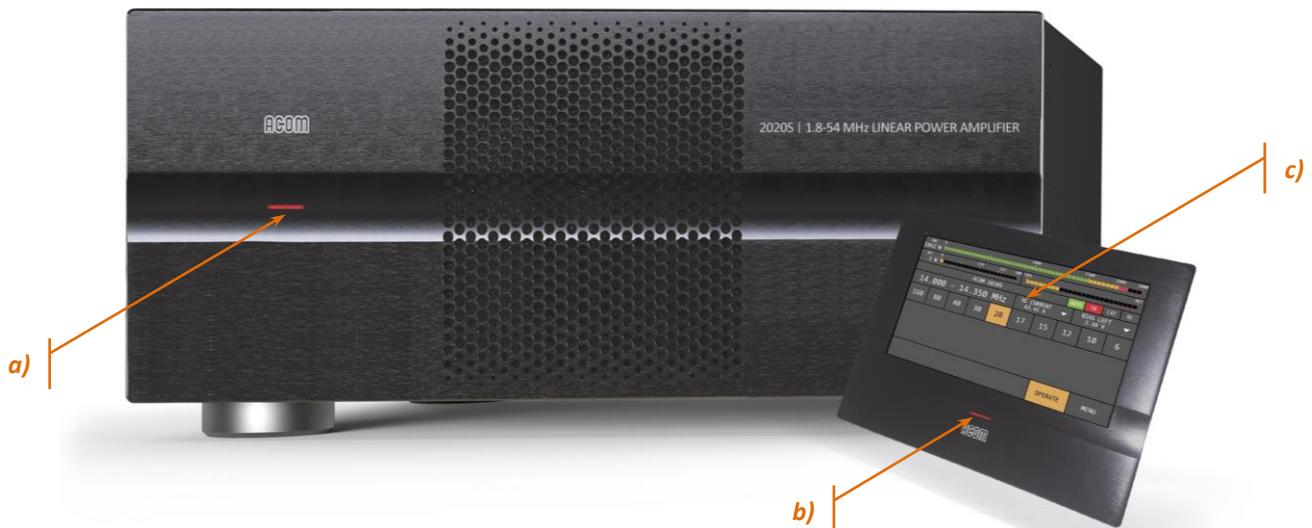

Figure 3-1 Amplifier and RCU Front panels - Controls and Readouts
Now you can turn on the amplifier's mains rocker switch (see *Figure 2-3 Amplifier rear panel - Connections*, Pos. (3)). This will activate only the low-energy STANDBY mode of the amplifier power supply and the red LED on amplifier's front panel will light up (see *Figure 3-1 Amplifier and RCU Front panels - Controls and Readouts*, Pos. (a)), as well as the red LED on RCU's front panel will light up also (see *Figure 3-1 Amplifier and RCU Front panels - Controls and Readouts*, Pos. (b)), while the amplifier's main power supply is still off and the RCU display is dark (see *Figure 3-1 Amplifier and RCU Front panels - Controls and Readouts*, Pos. (c)).
Please, see Figure 3-1 Amplifier and RCU Front panels - Controls and Readouts, Pos. (b).
When lit red and the RCU screen is dark (see Figure 3-1 Amplifier and RCU Front panels - Controls and Readouts, Pos. (c)), the amplifier is in low-energy STANDBY mode and may be turned on by pushing the **POWER** button.
Please, see Figure 3-1 Amplifier and RCU Front panels - Controls and Readouts, Pos. (c).
For this check the amplifier must be completely installed and connected according to Section **2 INSTALLATION**, but not powered by the mains, i.e., the main rocker switch on the rear panel (see **Figure 2-3 Amplifier rear panel - Connections**, Pos. (3)) must be turned off. In any case the red LED on amplifier's front panel (**Figure 3-1 Amplifier and RCU Front panels - Controls and Readouts**, (Pos. (a))), as well as the red LAD on RCU's front panel must be dark for this test.